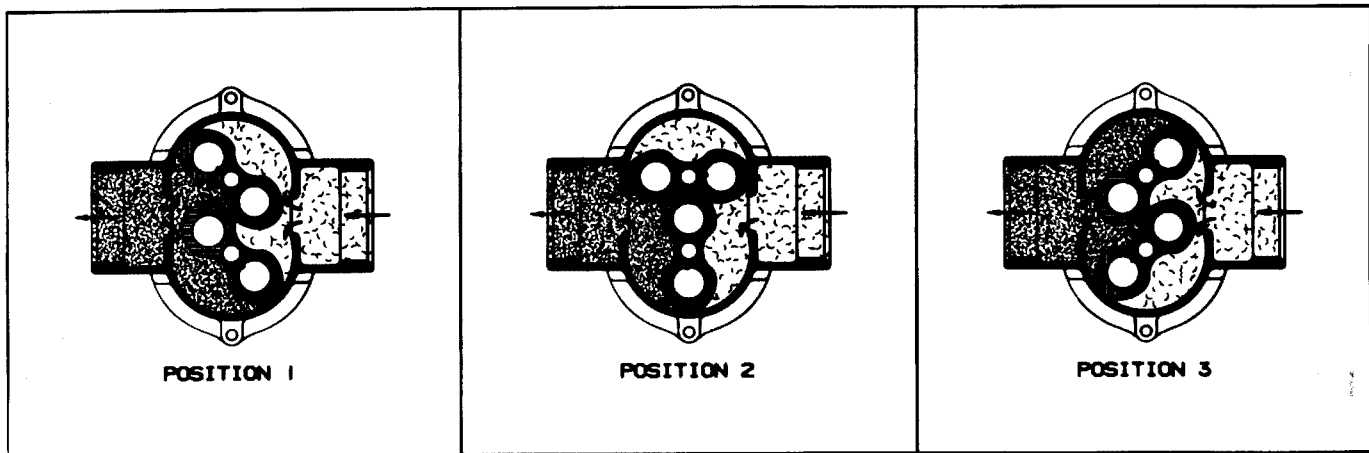

Figure 1 – Flow Through a Basic Type U-RAI® blower
Operation of the familiar basic rotary lobe blower is illustrated in FIGURE 1, where air flow is right to left from inlet to discharge with the bottom impeller rotating clockwise. In Position 1 it is delivering a known volume (A) to the discharge, while space (B) between the upper impeller and cylinder wall is being filled. Counterclockwise rotation of this impeller then traps equal volume (B) in Position 2, and further rotation delivers it to the discharge in Position 3. At the same time, another similar volume is forming under the lower impeller, and will be discharged when rotation reaches Position 1 again.